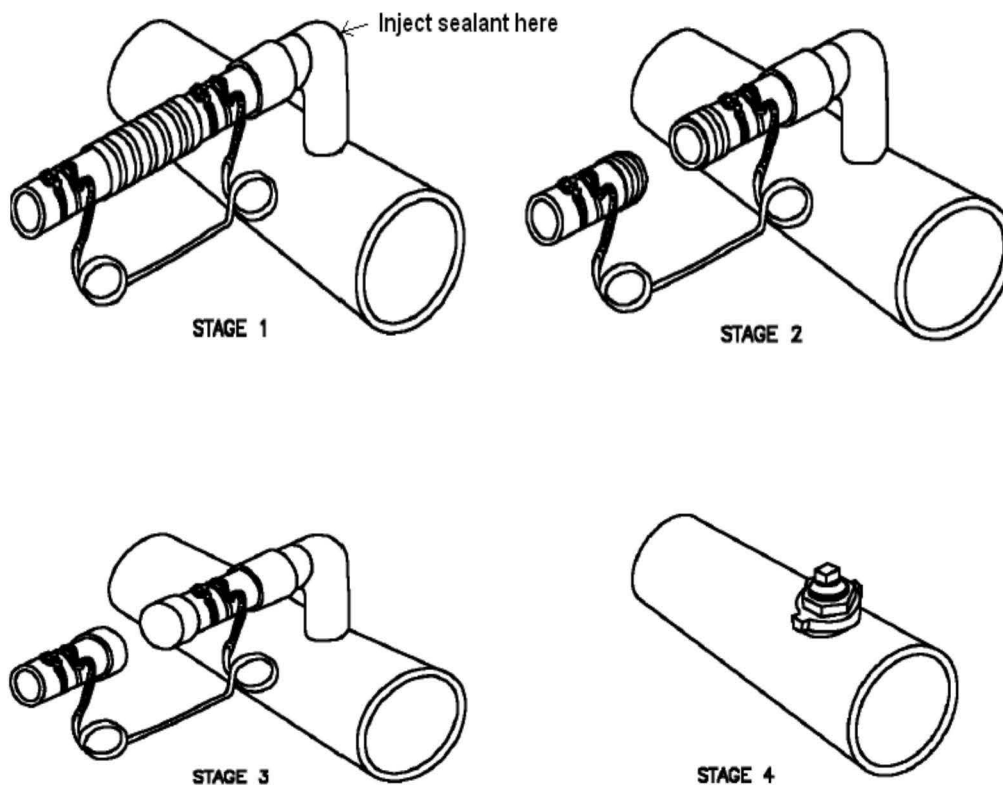

Figure A37 - Cut off metallic service with service bend to main
8. If a MP service is encountered with a bend/long screw as shown in Figure A37, the Operational Manager should be contacted to initiate the reduction in pressure of the main. Once the pressure in the main has been reduced the service can be cut off as stated below.
1. Refer to Work Procedure for use of the Rapid Service Isolator (T/PR/SER/9) and Figure A37 Stage 1-4 regarding the cutting of the service pipe.